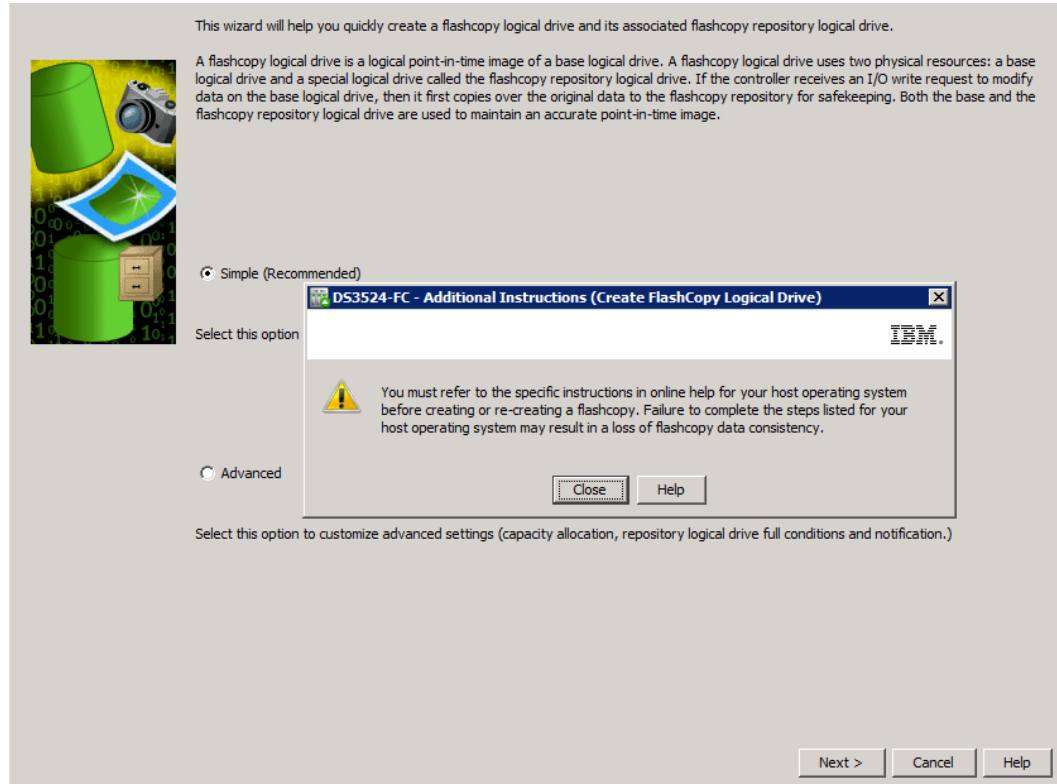

Figure 2-5 Create FlashCopy Logical Drive Wizard startup
The Create FlashCopy Logical Drive wizard begins, as shown in Figure 2-5 on page 22.
1. Review the information about the initial window, as shown in Figure 2-5. Click **Close** to proceed to the wizard Introduction window.